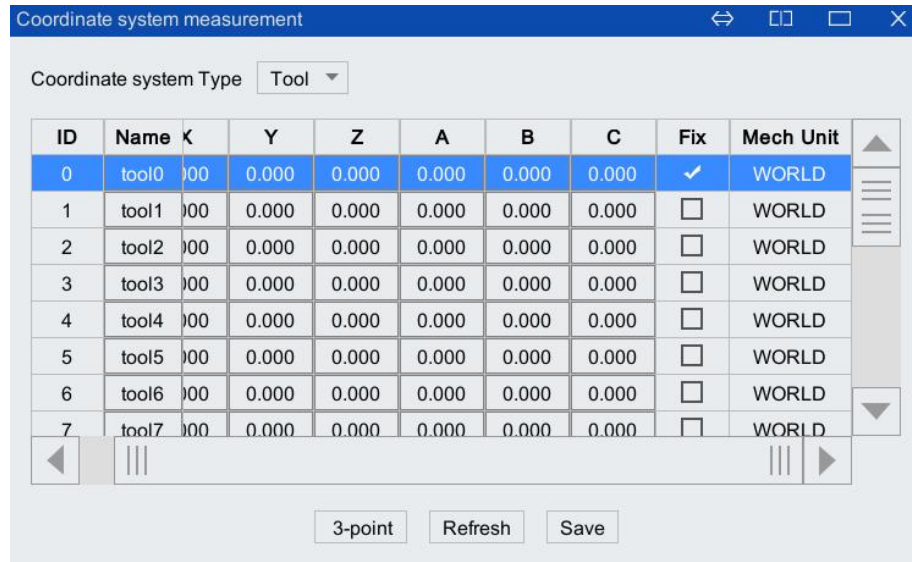

Figure 5-80 "Mechanical Unit" list
- Step8.** Click the mechanical unit box corresponding to the row of tool0, and a drop-down list will pop up, as shown in Figure 5-80, where you can choose WORLD or R1. When WORLD is selected, it means the fixed tool coordinate system is calibrated relative to the world coordinate system; when R1 is selected, it means the fixed tool coordinate system is calibrated relative to the robot base coordinate system.